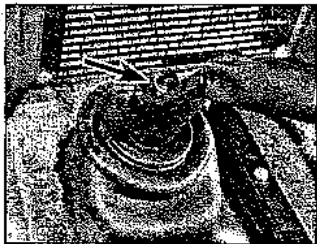

Fig. 13.69 Main gear lever retaining nut (arrowed) (Sec 9B)
- 8 Undo the retaining nut securing the main gear lever onto its splined shaft (Fig. 13.69), note and mark their relative alignment positions, then pull the lever from the selector shaft.